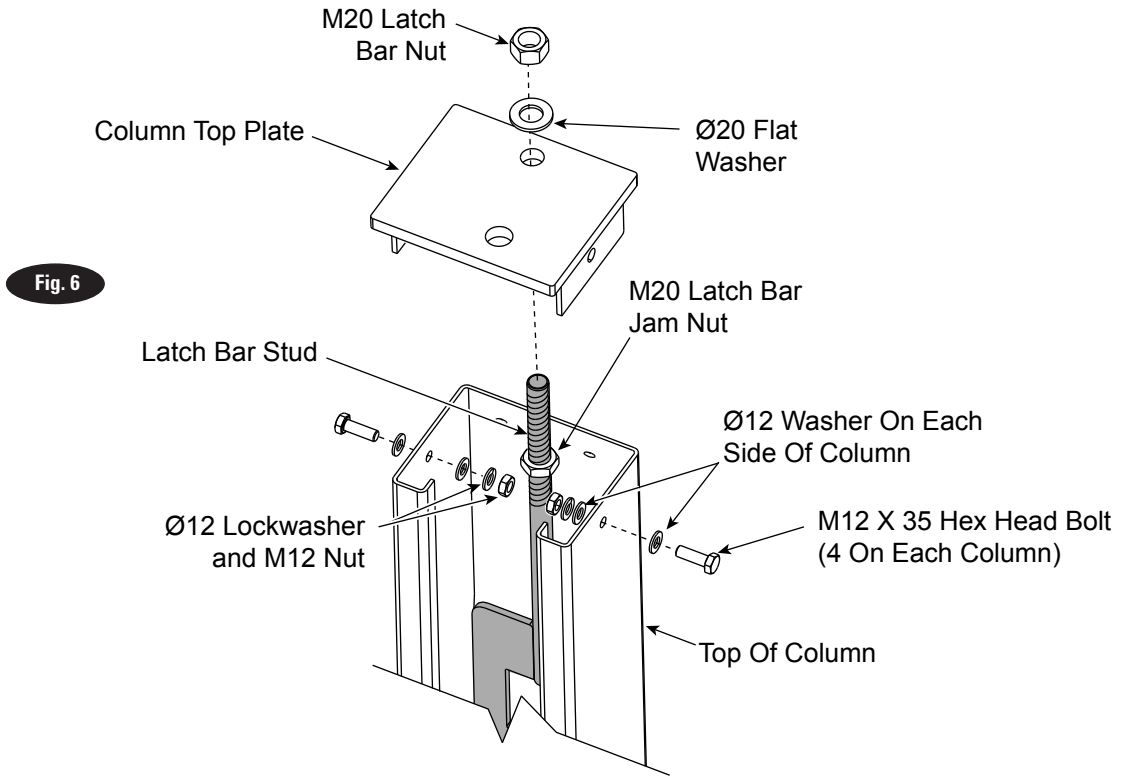

Fig. 6
A.) Install (1) column top plate in each column, Fig. 6. Make sure latch bar jam nut is located far enough down the latch bar stud to allow you to fully insert the column top plate in the top of the column.